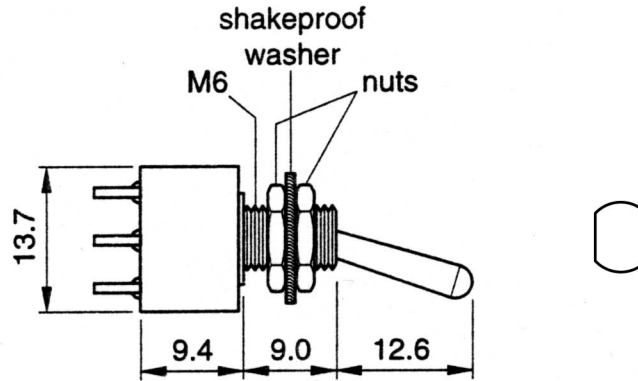

Fig. 10.
- 5 (a) Fig. 10. shows a diagram of a toggle switch. The switch is to be mounted on a front panel made from sheet aluminium. The shape of the panel cutout required for the switch is also shown.